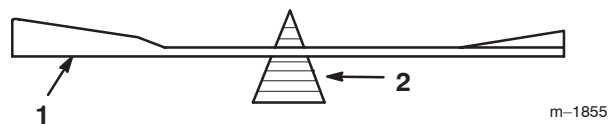

Figure 29
2. Check the balance of the blade by putting it on a blade balancer (Fig. 29). If the blade stays in a horizontal position, the blade is balanced and can be used. If the blade is not balanced, repeat the sharpening procedure on the heavier side until the blade is balanced.